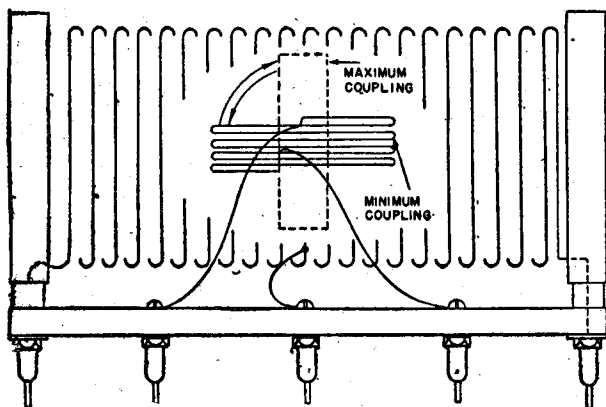

Figure 48. Method of adjusting coupling.
(2) Rotate the link coil so that the purple mark on the link coil is next to the similar mark on the primary (fixed) winding. Then rotate the link coil, in a clockwise direction, until its axis is at an angle of  $90^\circ$  with the axis of the primary winding. This is a position of minimum coupling. (See fig. 48.)